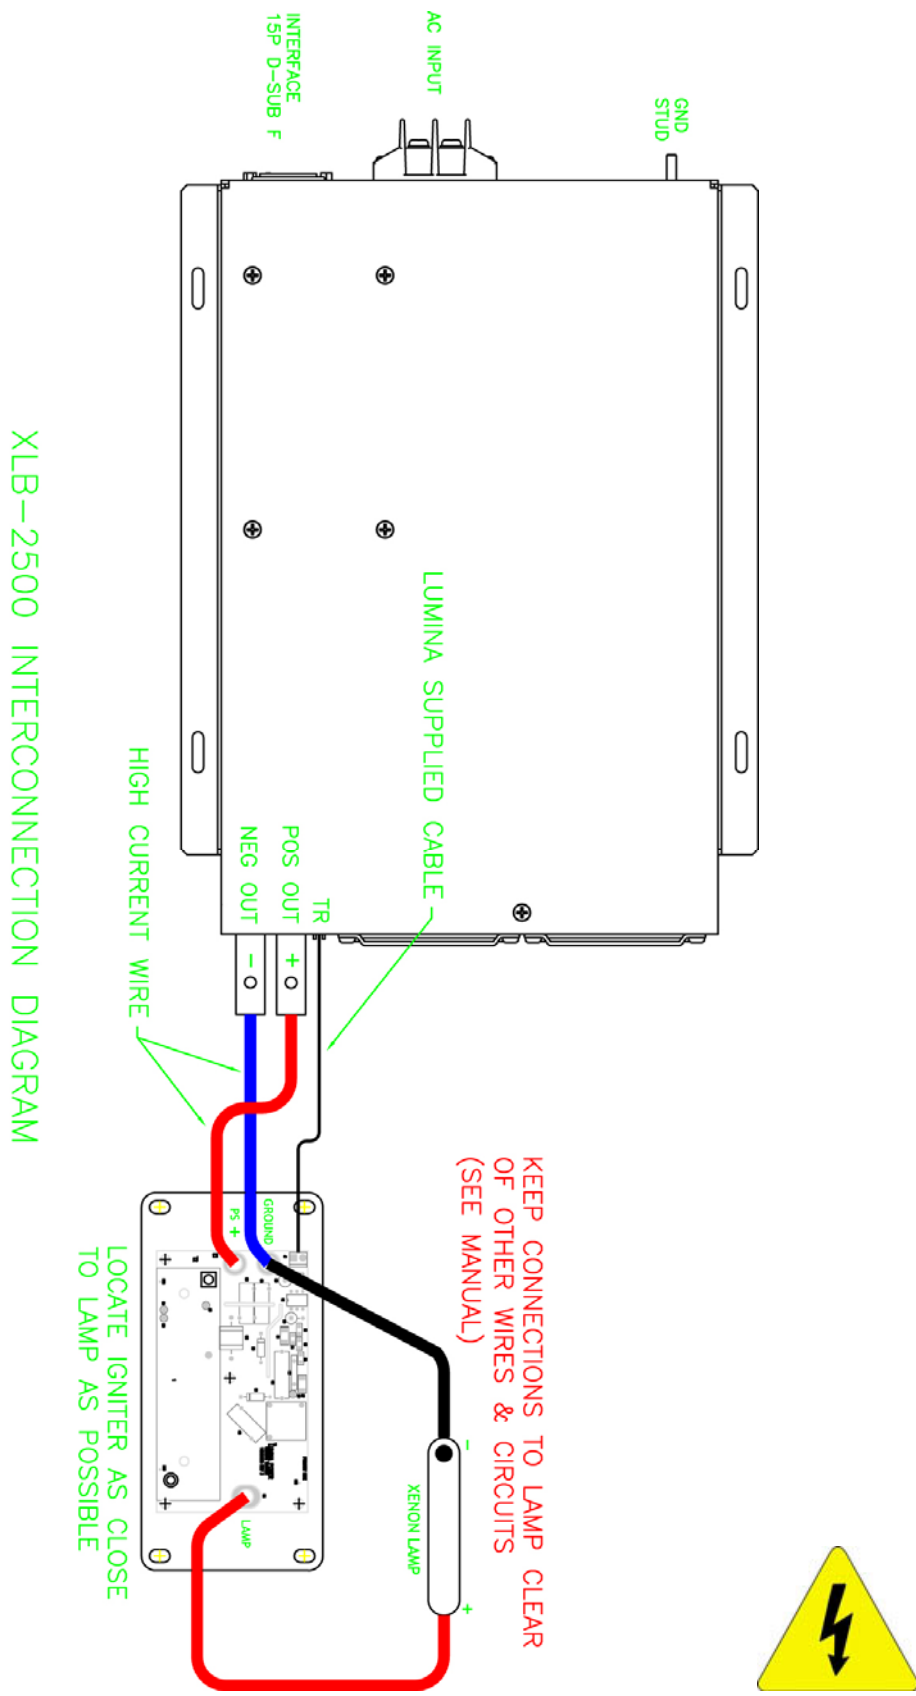

Figure 7
1. **CONNECTING TO Xenon Lamp** Figure 7 shows the interconnections between the XLB-2500, the Igniter module and the Xenon lamp. **Because the Igniter module produces a high speed 45kV pulse when igniting the Xenon lamp, it is important to keep connections between the igniter module and the Xenon lamp as short as possible to avoid I^2R losses in the wire. The Igniter module is ideally placed as close as possible to the Xenon lamp.**
2. **TR Trigger Sense Connection** Connect the TR trigger sense connection wire to the trigger module and the XLB-2500 main power supply chassis. The cable for this connection has been provided. The location of the connections is shown in Figure 7.